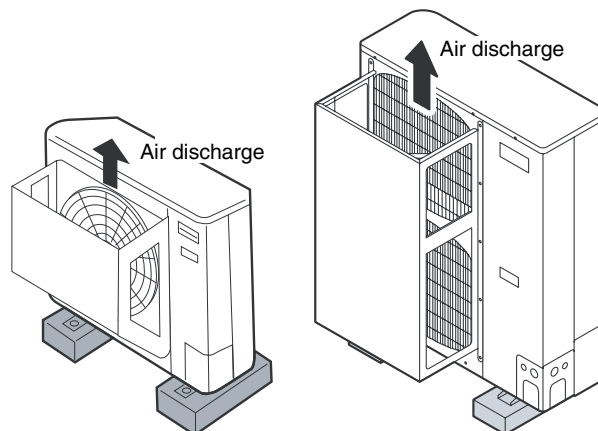

Fig. 1-5
- the air discharge outlet is facing a sidewalk and discharged hot air may bother passers-by. Refer to Fig. 1-5.